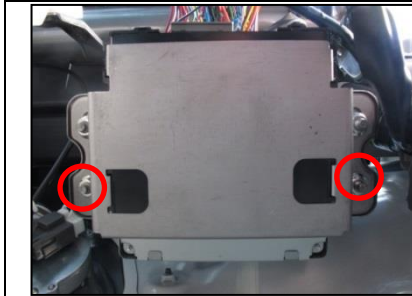

Figure 61
- a. Remove the two (2) 12 mm nuts closest to firewall from the MMU bracket. (See Figure 61.)